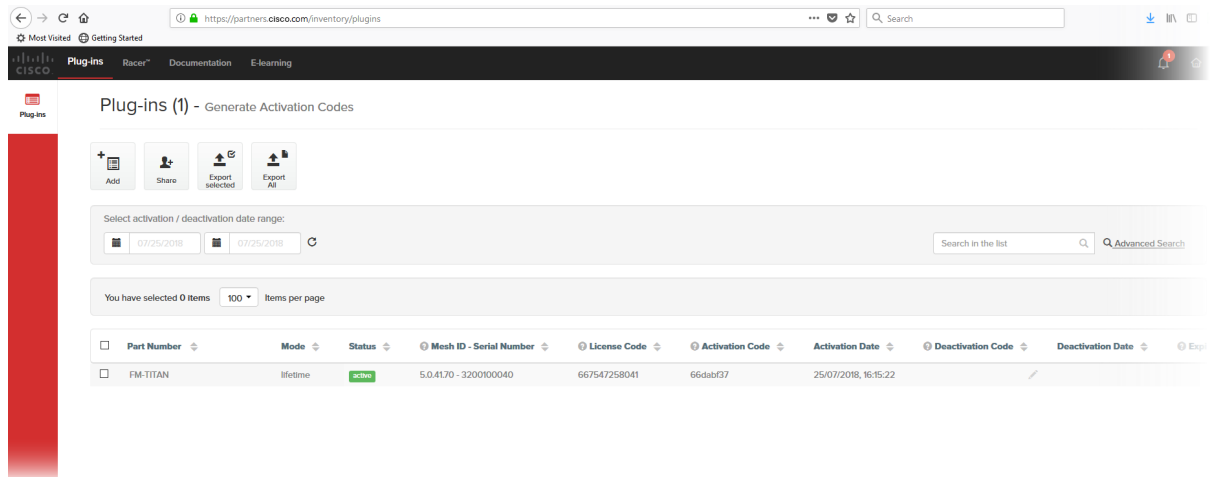

Figure 59. Partner Portal Plug-ins page (License code deactivation)
- The Plug-ins web page will be shown (Figure 59 (page 109)).